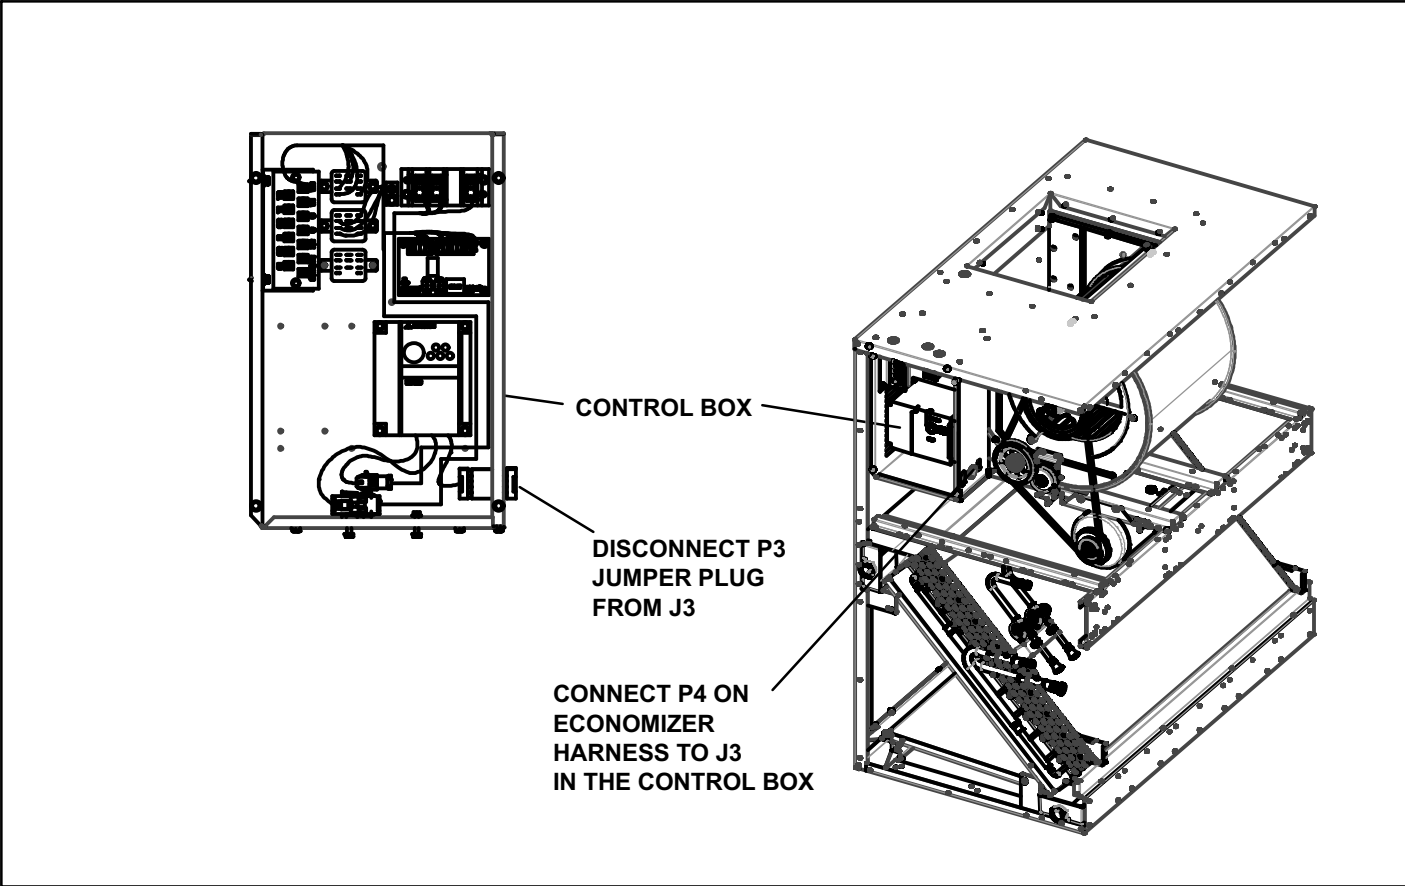

Figure 3. Economizer Wiring Connections
5. Remove and discard existing **P3** jumper plug from **J3** jack on unit wiring harness (figure 3).
NOTE — Economizer section may be rotated 180° for bottom return air connections (figure 3).